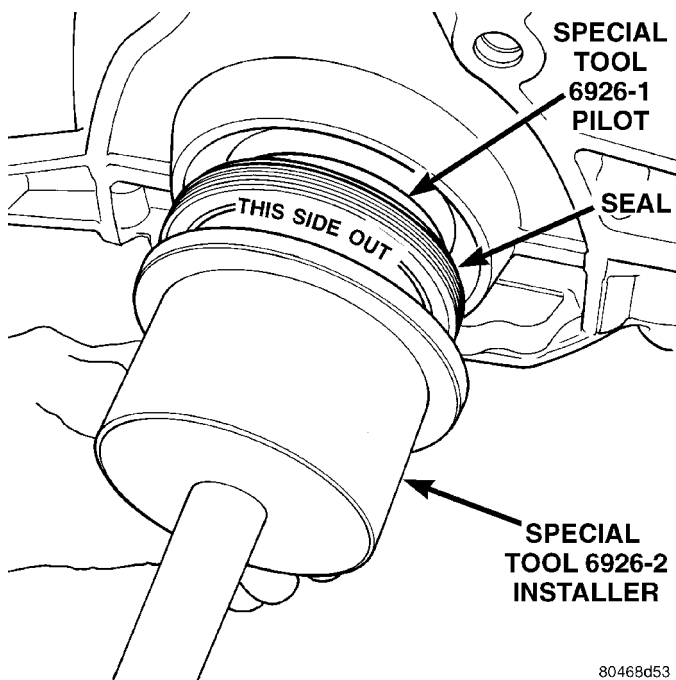
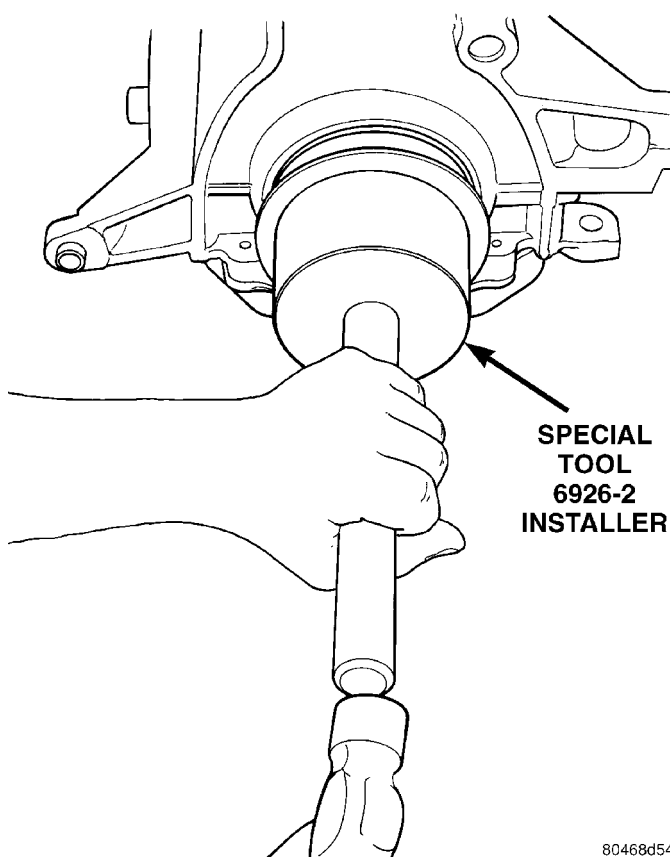

Fig. 64 Crankshaft Seal Special Tool 6926-2
Fig. 65 Rear Crankshaft Seal—Installation
(3) Drive the seal into the block using Special Tool 6926-2 and handle C-4171 (Fig. 64) until the tool bottoms out against the block (Fig. 65).